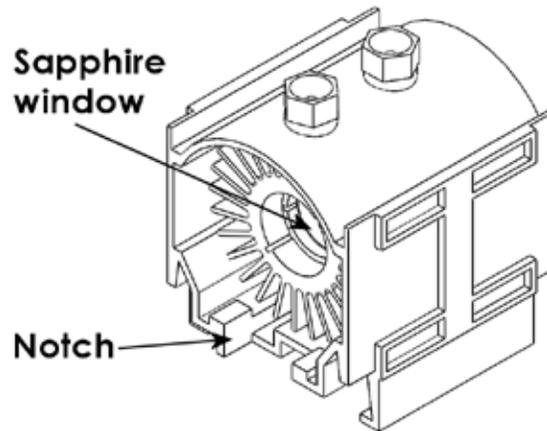

Figure 5-6. Position of the bulb/heat sink assembly in the blue housing.
7. Insert the heat sink/bulb assembly into the blue housing. Make sure the SAPPHIRE WINDOW side (output) is the same side as the notch in the blue housing (Figure 5-6). Screw in the terminals (the one located closer to the sapphire window has smaller threads than the other) slightly more than hand tight to complete the bulb installation in the blue housing.